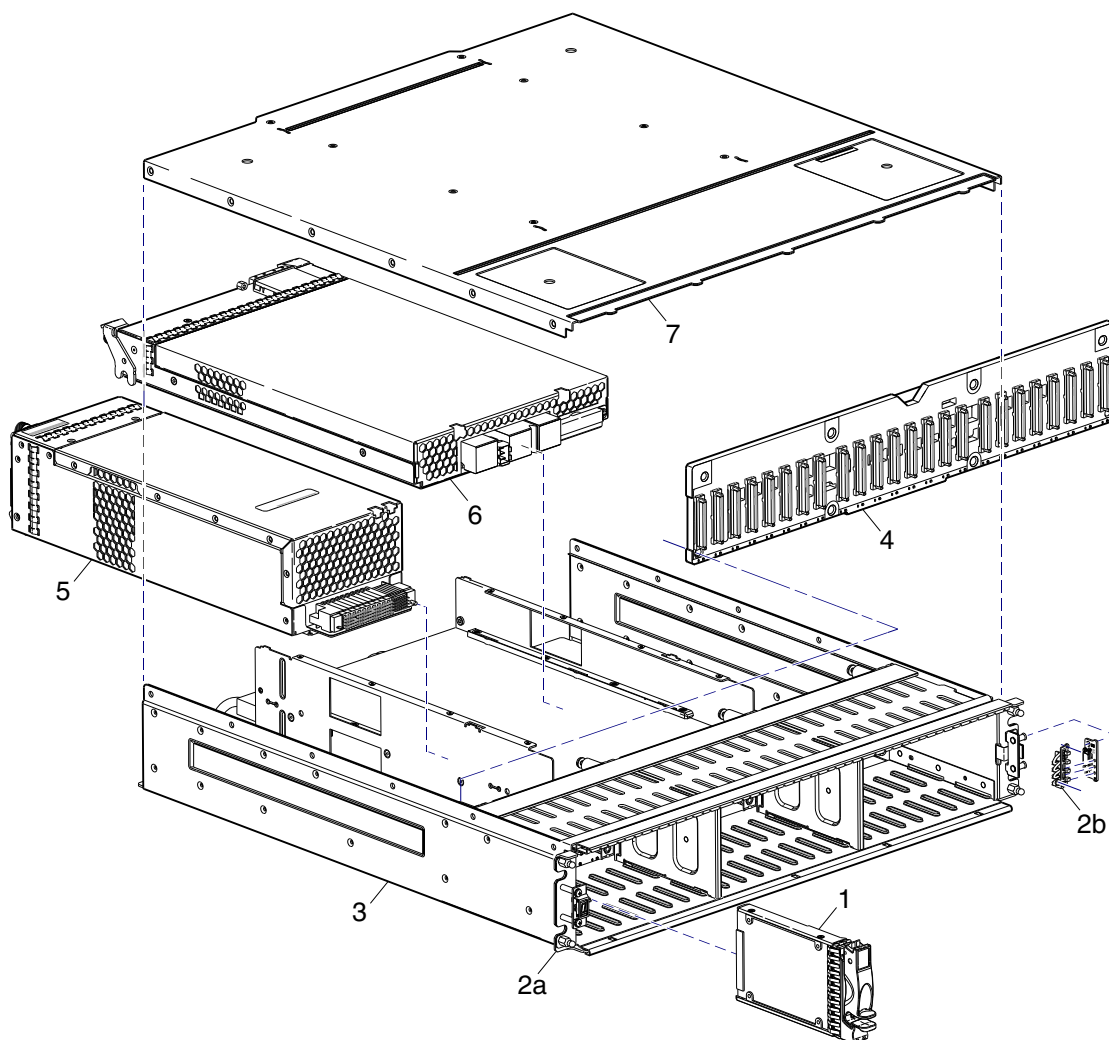
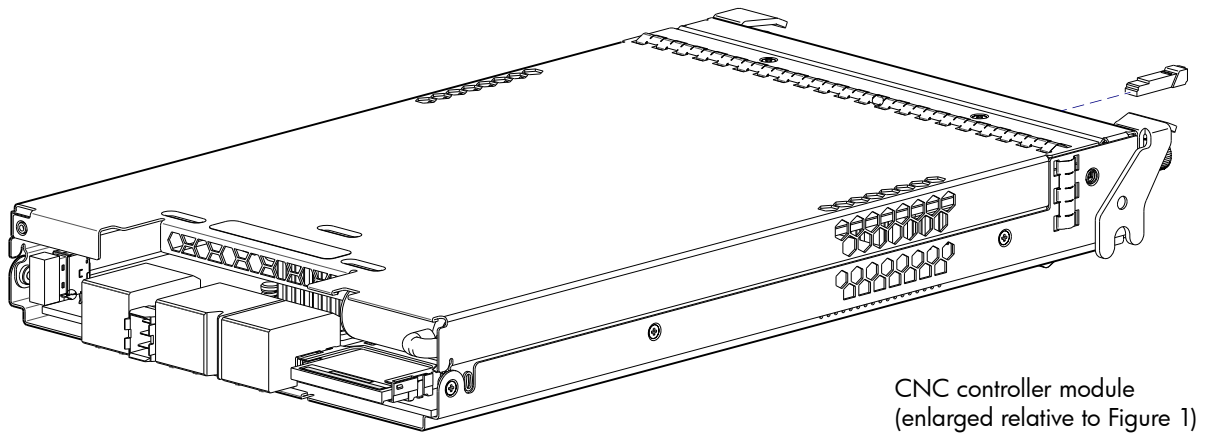
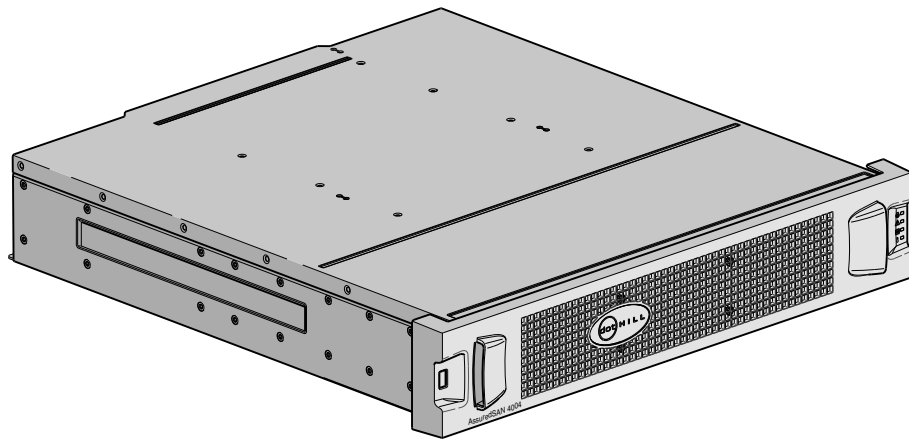
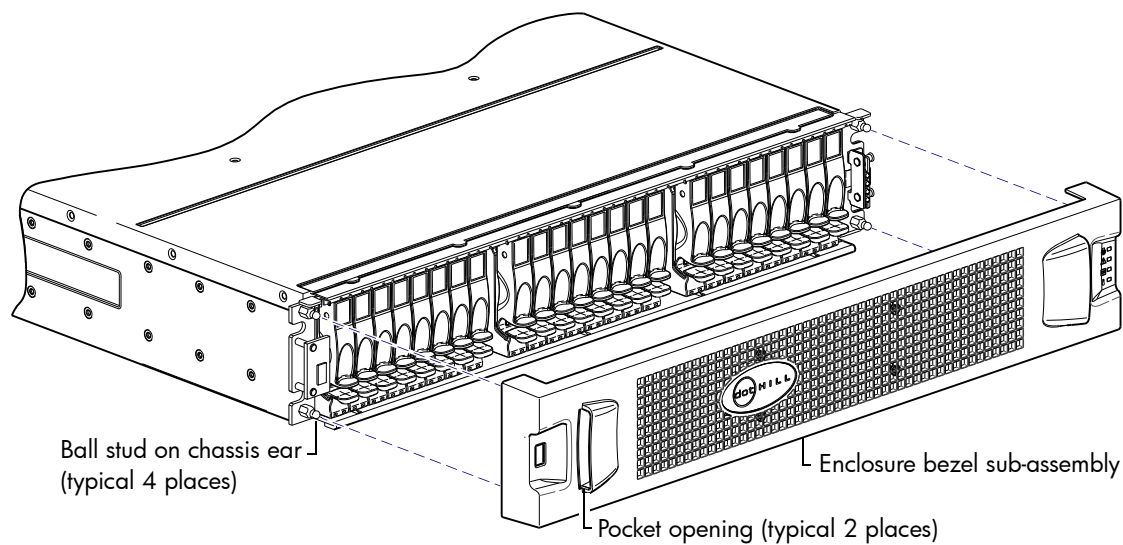

Figure 1 Exploded view — controller or expansion enclosure (2U24)
Figure 2 3004 Series CNC controller module with SFP transceiver
Figure 3 Controller enclosure assembly with bezel installed (2U24)
Figure 5 Partial assembly showing bezel alignment (2U24)
3	Chassis (sheet metal flanges on internal IOM bay assembly are omitted from Figure 1 for visual clarity)
Controller module for enclosure [two allowed per controller enclosure] (see Figure 2 on page 13)
Small form-pluggable (SFP) connectors (see Figure 2 on page 13)
NOTE: Numbered items from Table 4 are shown in Figure 1. Tinted items from Table 4 are shown in Figure 2 on page 13.
Figure 1 through Figure 5 illustrate 24-drive enclosure models. Item No.6 (above) is a supported expansion module. Figure 2 shows a newer 3004 Series controller module also supported by the enclosure. Although not shown in Figure 1, newer product models use an enclosure bezel instead of ear caps (no longer used). The enclosure bezel is shown in Figure 5 on page 14 (removed) and in Figure 3 on page 13 (installed), respectively.
- Controller module pictorial — Figure 2
- Assembly — Figure 3 on page 13 and Figure 5 on page 14
The controller module shown in Figure 2 is used instead of the expansion module (item No.6 in Figure 1) when the chassis is configured as a controller enclosure, rather than an expansion enclosure. The SFP transceiver is shown exploded from the IOM in the CNC example. Controller modules equipped with CNC ports support qualified FC (8 Gbit/s, 16 Gbit/s), 10GbE iSCSI, and 1 Gb RJ-45 SFP options. Controller modules equipped with HD mini-SAS ports use qualified SFF-8644 external connectors.
Newer models of the SFF 24-drive enclosure support a bezel sub-assembly that attaches to the front of the chassis (see Figure 3 on page 13). The bezel—comprised of a vented cover featuring integrated ear caps—is pre-assembled and packed with foam into a box included in the master shipping container.